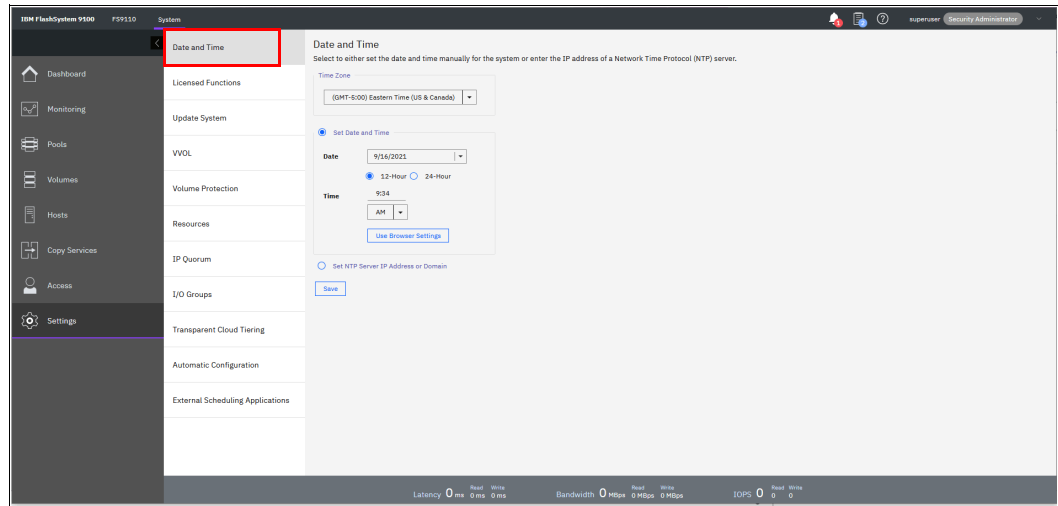

Figure 4-98 Date and Time window
2. In the left column, select **Date and Time**, as shown in Figure 4-98 on page 264.